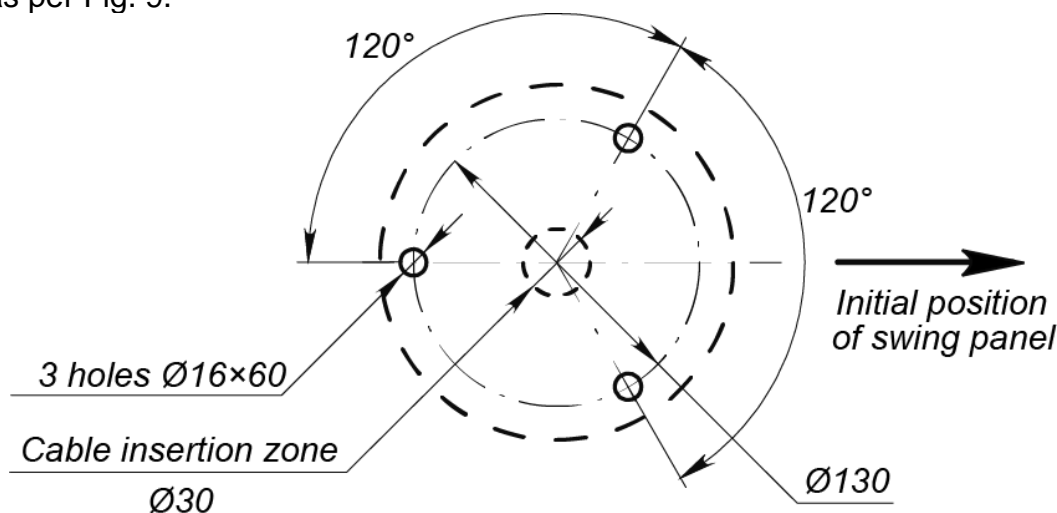

Figure 9. Mounting hole pattern
4. Mark and prepare the mounting holes in the floor for anchors to install the gate post as per Fig. 9.